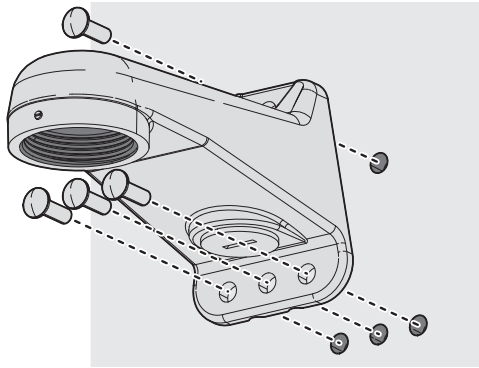

Figure 1. Installing the Wall Mount
6. Use a minimum of two 1/4-inch fasteners of appropriate type (not supplied) to secure the wall mount to the mounting surface (refer to Figure 1 on page 4).